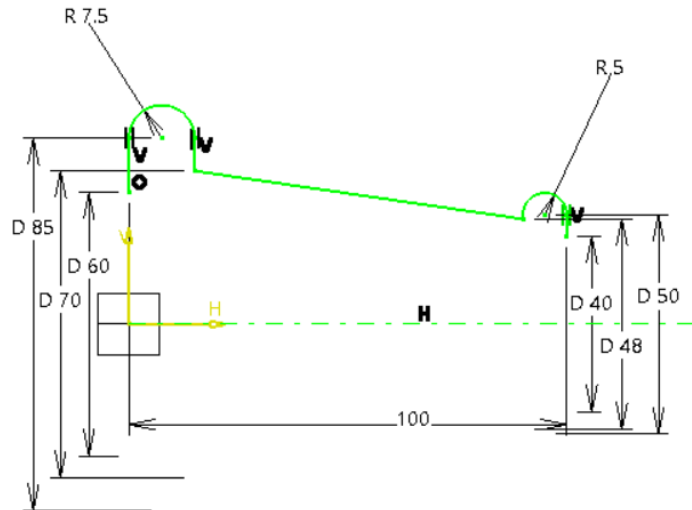

Figure 17-85 Sketch of the base surface
2. Invoke the sketcher environment using the xy plane as the sketching plane and create the sketch of the base surface, as shown in Figure 17-85.